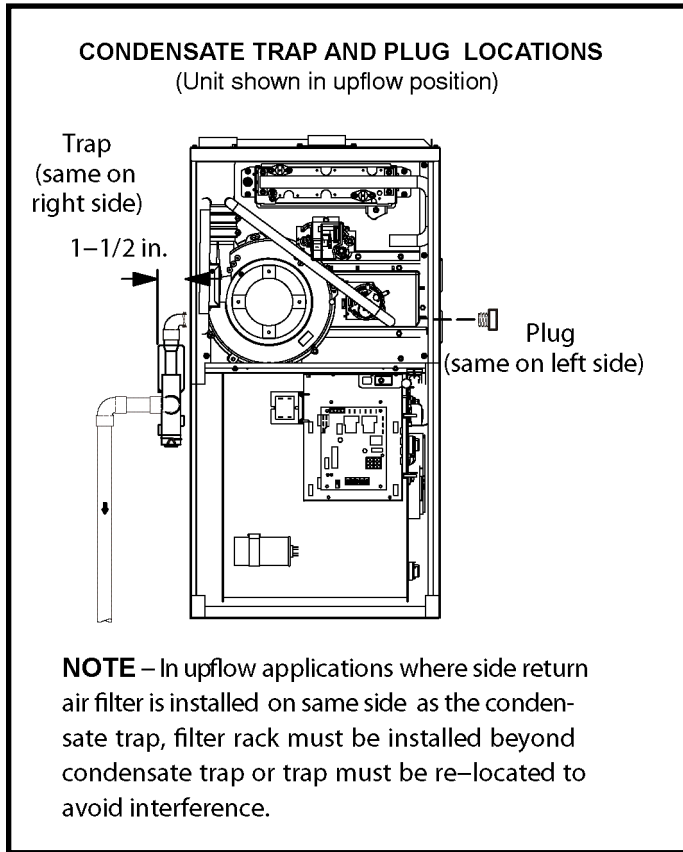
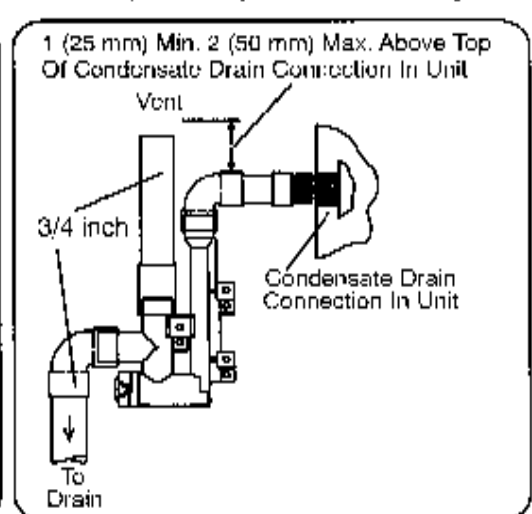

Figure 48
Figure 55
Refer to Figures 48 and 49 for condensate trap locations. Figure 55 shows trap assembly using 1/2" PVC or 3/4" PVC.
2. Use a large flat head screw driver or an 1/2" drive socket extension and remove plug (Figure 48) from the cold end header box at the appropriate location on the side of the unit. Install provided 3/4 NPT street elbow fitting into cold end header box. Use Teflon tape or appropriate pipe dope.
3. Install the cap over the clean out opening at the base of the trap. Secure with clamp. See Figure 55.
4. Install drain trap using appropriate PVC fittings, glue all joints. Glue the provided drain trap as shown in Figure 55. Route the condensate line to an open drain. *Condensate line must maintain a 1/4" downward slope from the furnace to the drain.*